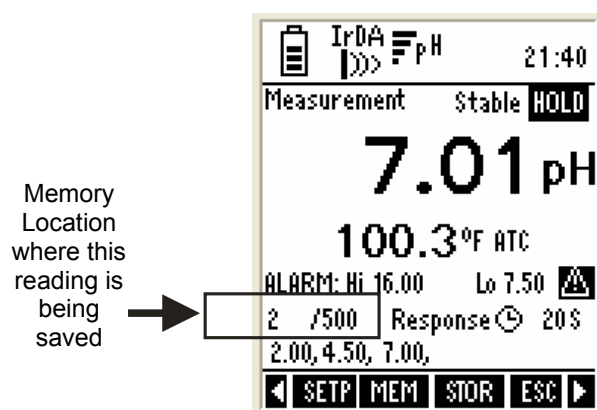

Figure 23 : Saving a reading
3. Press **STOR (F3)** key to store the currently displayed reading. The display briefly shows the memory location where this reading is being saved. (Figure 23)